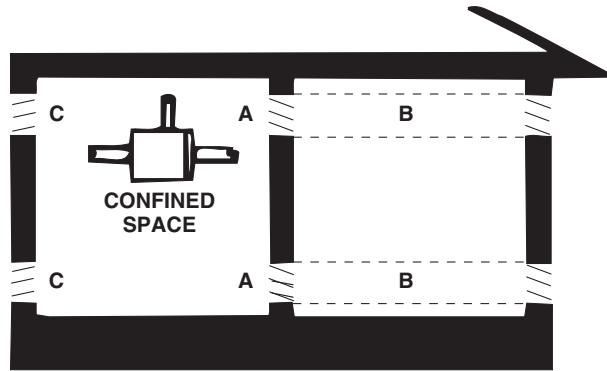

Figure 1. Confined Space Combustion Air Openings (Refer to Table 2)
- Even a slight leak can create a negative pressure condition in a confined space and can affect combustion. Do not install a unit in a confined space without providing wall openings leading to and from the space. Depending on the combustion air source, provide openings near the floor and ceiling for ventilation and air for combustion as shown in **Figure 1** and as listed in **Table 2**.
*See Figure 1.